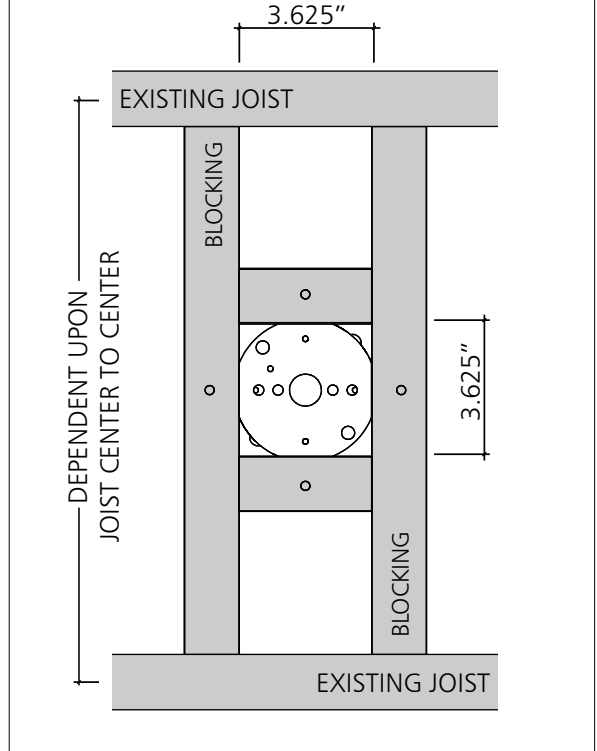

Fig. 4 - Circuit Wiring Detail
- Top Diffuser Option: With Top Diffuser sandwiched between, secure Diffuser Cap to Diffuser Hub using (4) #6-32 x 1/4" Undercut Flat Head Phillips Screws. Slide Diffuser Assembly onto Stem. Align top of Diffuser Cap to bottom of Tape and secure to Stem using (1) Set Screw. Remove Tape.
- Thread Stem Coupling Plate onto Stem and secure using (2) Set Screws. Feed Fixture Wire through Stem. Attach Stem Coupling Plate to Band using (6) #10-32 x 1/2" Socket Head Socket Screws. With Stem/Band assembly in upright position, carefully set Top Shade into Band.
- Lift Stem/Top Shade/Band assembly and make secure electrical connections between Fixture Wire and Supply Wire according to local regulations. (See Fig. 4 & 7). Insert excess connectors and wire into Junction Box or Surface Mount J-Box.
- Attach Ceiling Plate to Junction Plate using (4) #10-24 x 1" Flat Head Socket Screws or to Surface Mount J-Box using (4) #10-24 x 1/2" Flat Head Socket Screws. Attach Ceiling Plate to reinforcing using (4) #12 x 3" Flat Head Wood Screws.